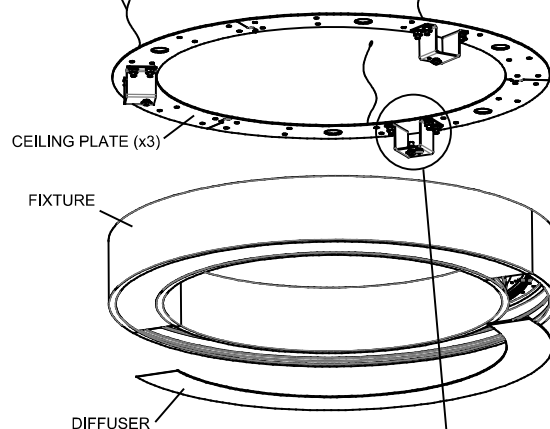

Fig. 4
7. Insert diffusers textured side down by slightly twisting and lifting into place (Fig. 4).